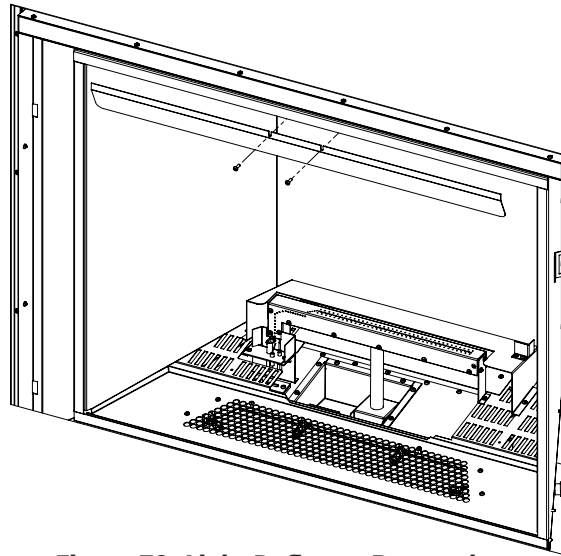

Figure 79: Light Deflector Removal
Step 2. Remove light deflector by loosening two retaining T-20 screws (see Figure 79).